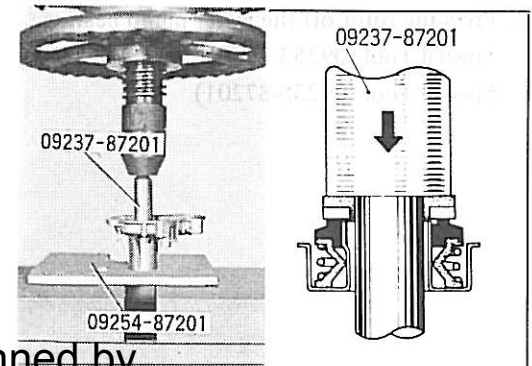

Fig. 7-16 Press-Fitting Water Pump Seal Set
2. The seal set must be assembled only in the correct direction as indicated in Fig. 7-16.